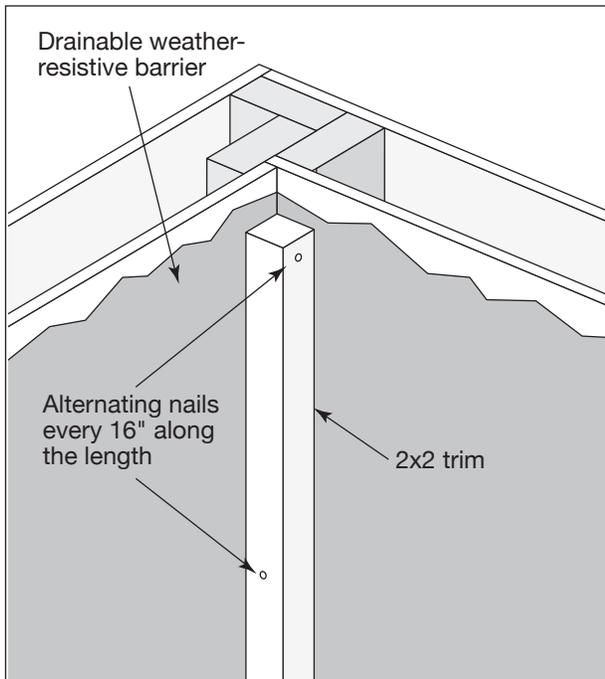

Fig. 7
- Use 1 nail every 16 inches along the length on alternating sides of the 2x2 trim, ensuring penetration into the framing (**Fig. 7**)